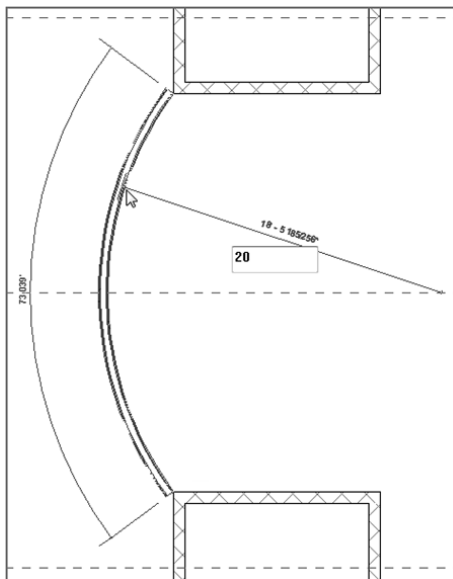

FIGURE 2.33: Drawing an arched radial wall requires a three-point method. It's similar to the Start-End-Direction command in AutoCAD.
- Move your cursor to the left, and specify a radius of 20'-0" (6000 mm), as shown in Figure 2.33.